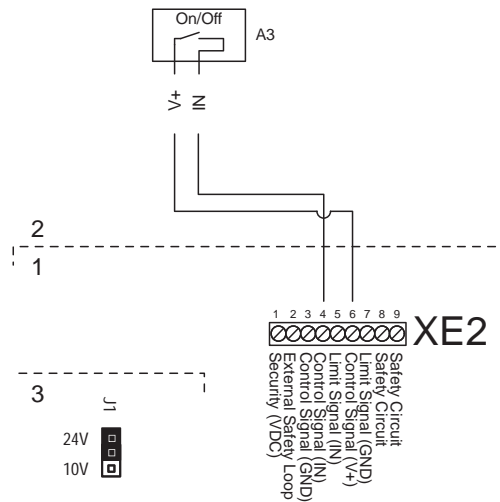

Figure 17 - On/Off Humidistat Connection
4. Connect the signal cables of the humidistat to terminals 4 (IN) and 6 (V+) of the control terminal block, XE2. Refer to Figure 17 above.